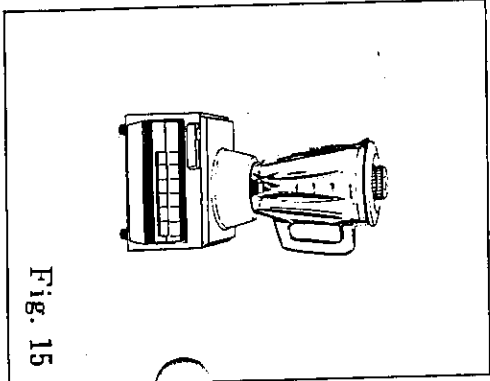

Fig. 15
- 2) Insert the blender jar into the stand (Fig. 15)